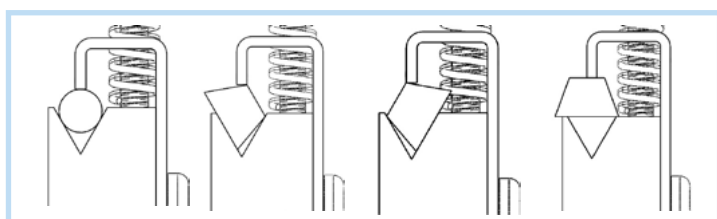

Fig. 9
4. Release the clamp and allow the spring load to lock the belt ends in place. Adjust the knurled nut (18) if needed. Correct locking positions for VaR belts shown in Fig. 9.